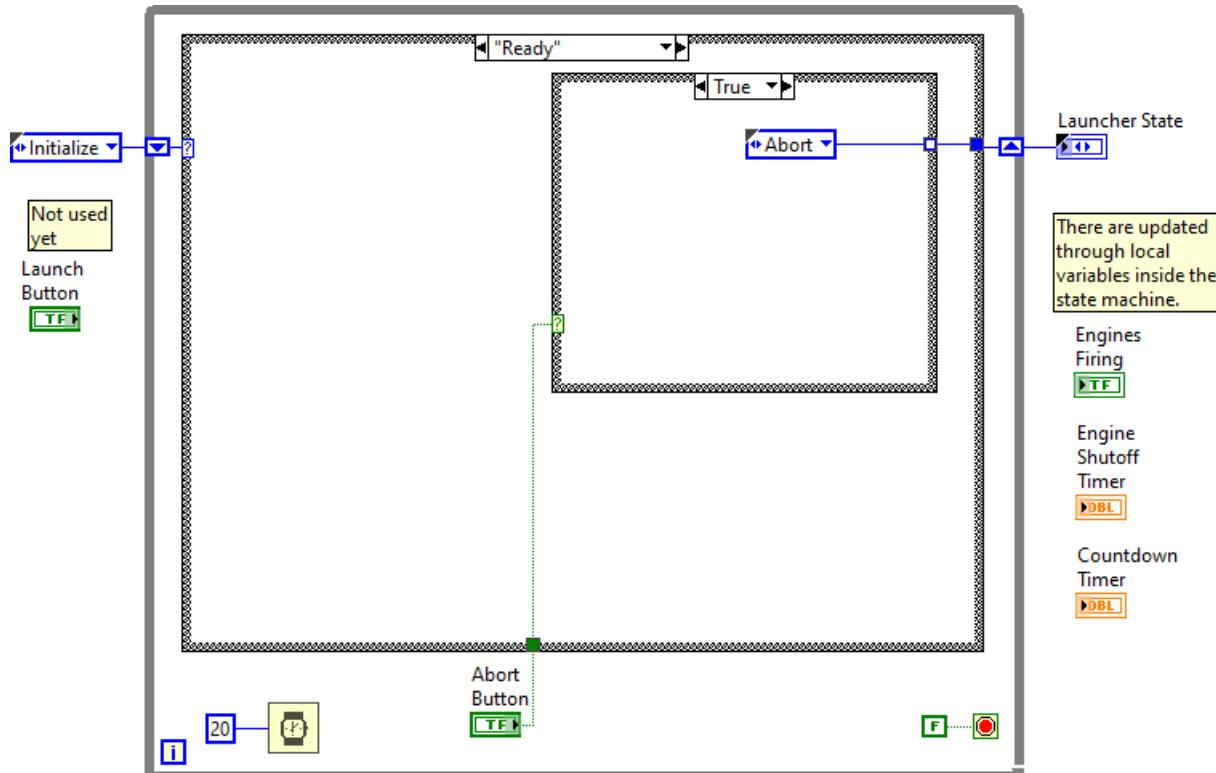

FIGURE 3.16 Wiring the Ready state to handle the Abort button being pressed.
6. Grab the terminal for the Abort button and put it inside the While Loop, near the bottom, to the left of the wait function. Doing this now assists you in sizing things correctly in the next step. (As you go through the next few steps, you may find it useful to look ahead to Fig. 3.16.)
16. Wire the control to the shift register as shown in Fig. 3.16. Note the tunnel that appears as a white square. This is an error (which we will fix in a moment). It is telling you that you have not wired to this output in every case. You must provide a valid output for every case in order for the program to run.